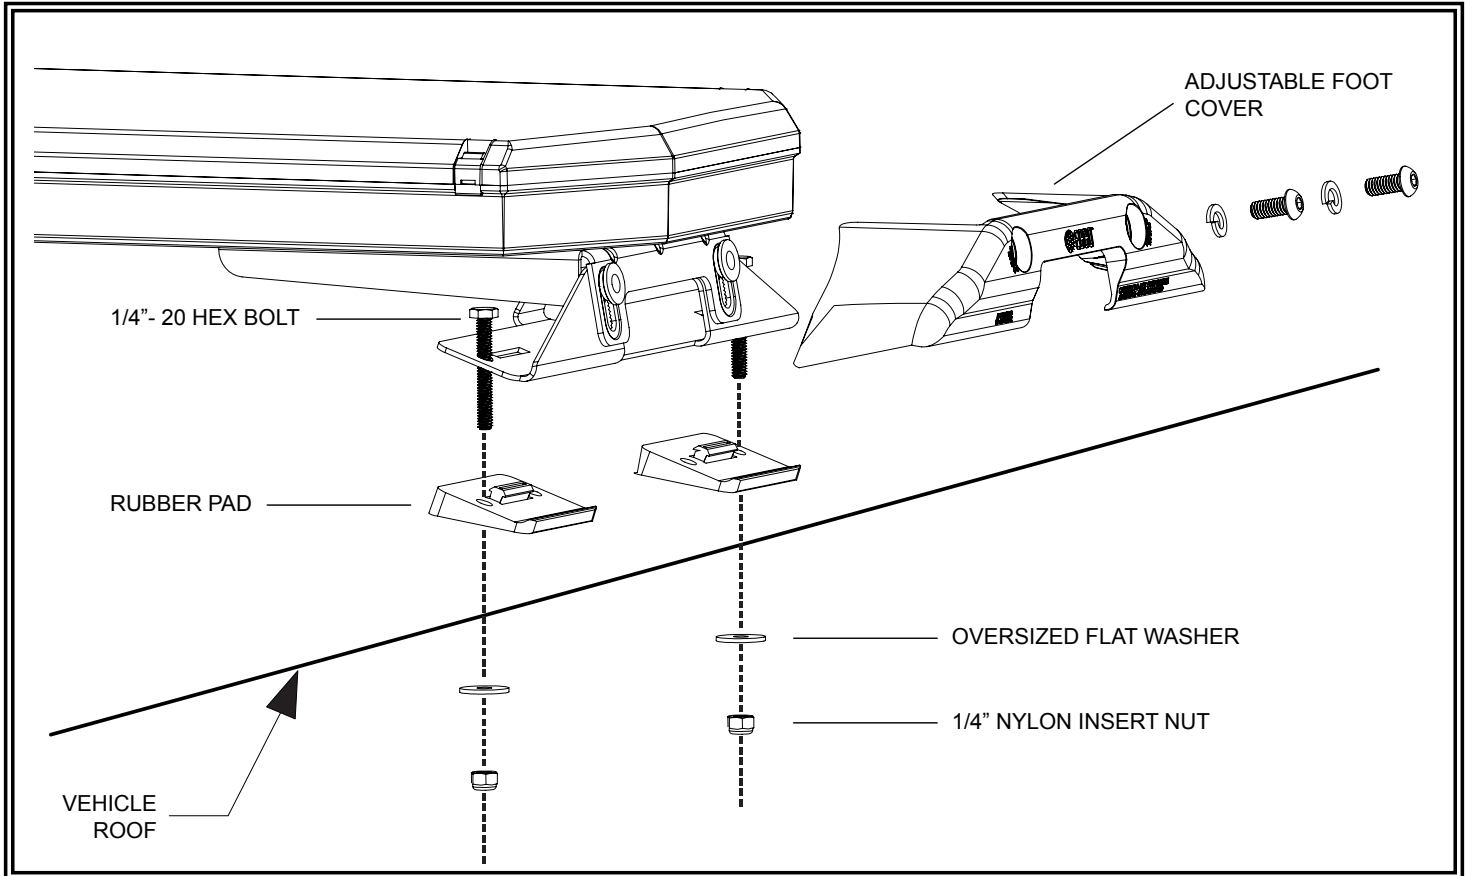

FIGURE 1
4. Select and attach the appropriate foot pad for the curvature of the roof surface. Secure the lightbar feet to the vehicle using the supplied 1/4"-20 hardware and reattach the adjustable foot cover as shown in FIGURE 1.